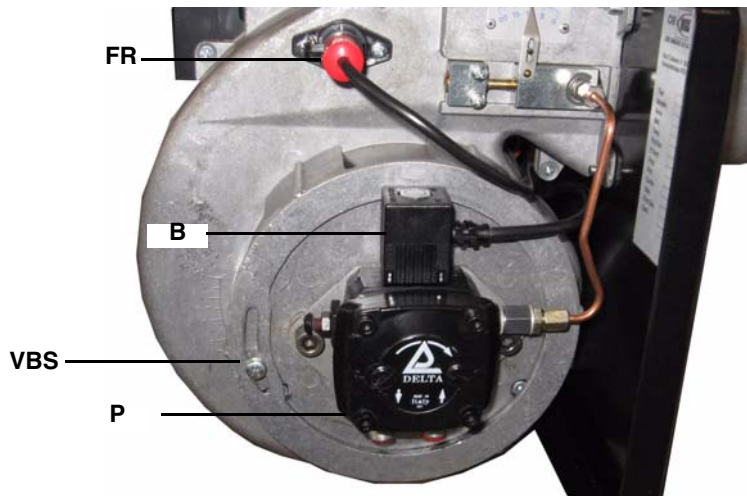
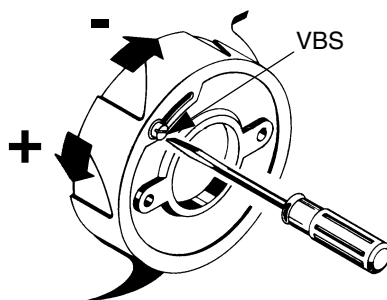

Fig. 8
Fig. 11
- 2 remove the solenoid valve coil **B** on pump **P** (Fig. 8) to avoid the light oil to get into the combustion chamber;
- 4 remove the detection probe **FR** (Fig. 8) and light it up;
- 8 reconnect the **B** coil on the pump (Fig. 8);
- 11 Checking the combustion values, adjust the air flow rate acting on the **VSB** screw (Fig. 8-Fig. 11); screw to decrease the flow rate and unscrew to increase it.